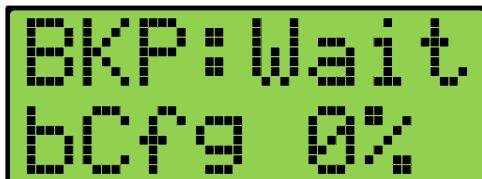

Figure 3: Back-up in Progress
1. From the Update > Backup menu, press Enter. The backup is in progress (Figure 3).